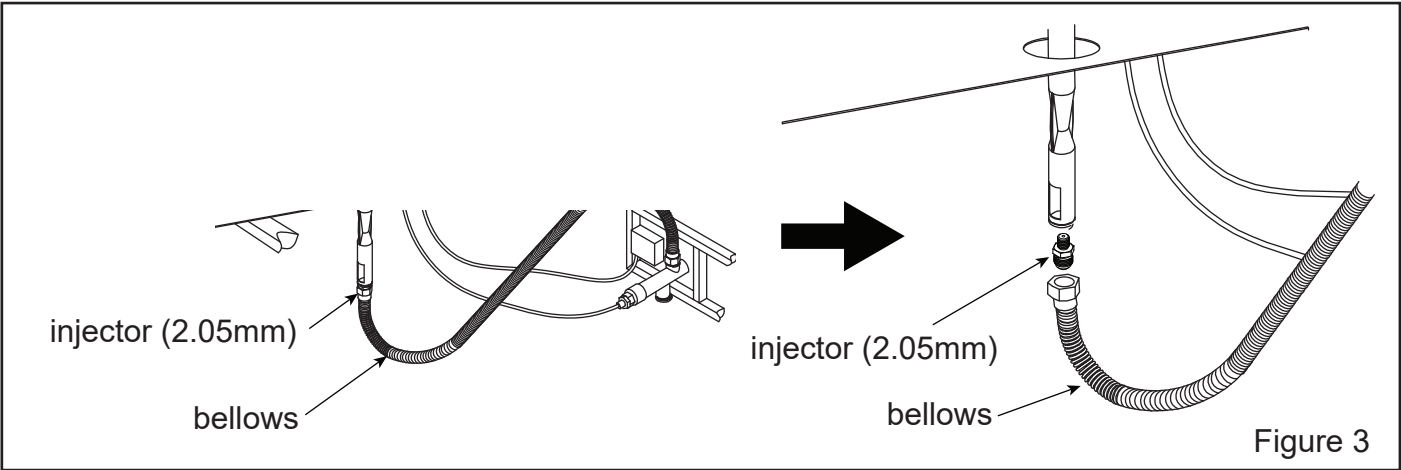

Figure 3
- (1). Unscrew and disconnect the injector 2.05mm from the bellows (see Figure 3).